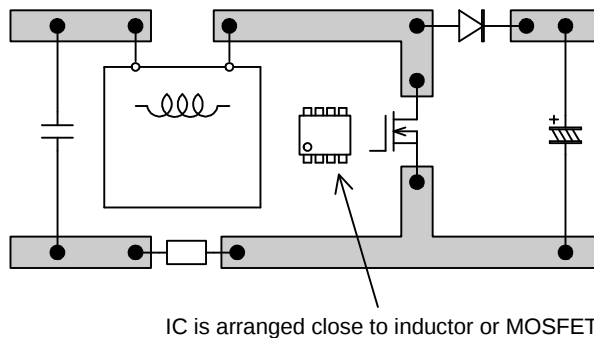

Fig.33 Example of inadvisable arrangement (2)
- IC is arranged close to inductor, MOSFET or diode (Fig. 33)